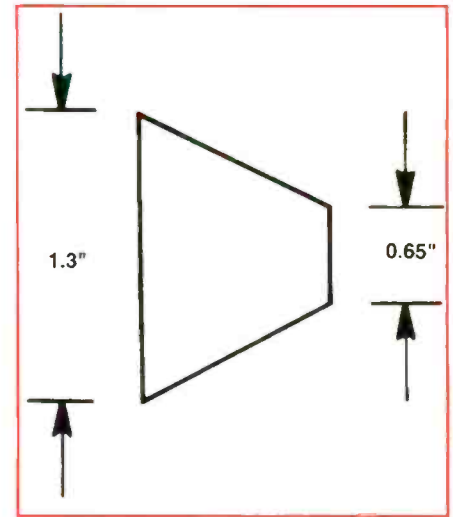

Figure 1.
6. Determine the percent modulation for the AM signal having the trapezoid pattern shown in Figure 1.
Going back to the question the way it was asked in the April '95 issue, it should be obvious that when you increase the noise you *decrease* the signal-to-noise ratio! Refer to Figure 1. with noise voltage in the denominator, any increase in the noise—that is, in the denominator—will decrease the value of the fraction.
Figure 1. This equation for signal-to-noise ratio shows that when you increase the noise you decrease the signal-to-noise ratio! With noise voltage in the denominator, any increase in the noise—that is, in the denominator—will decrease the value of the fraction.